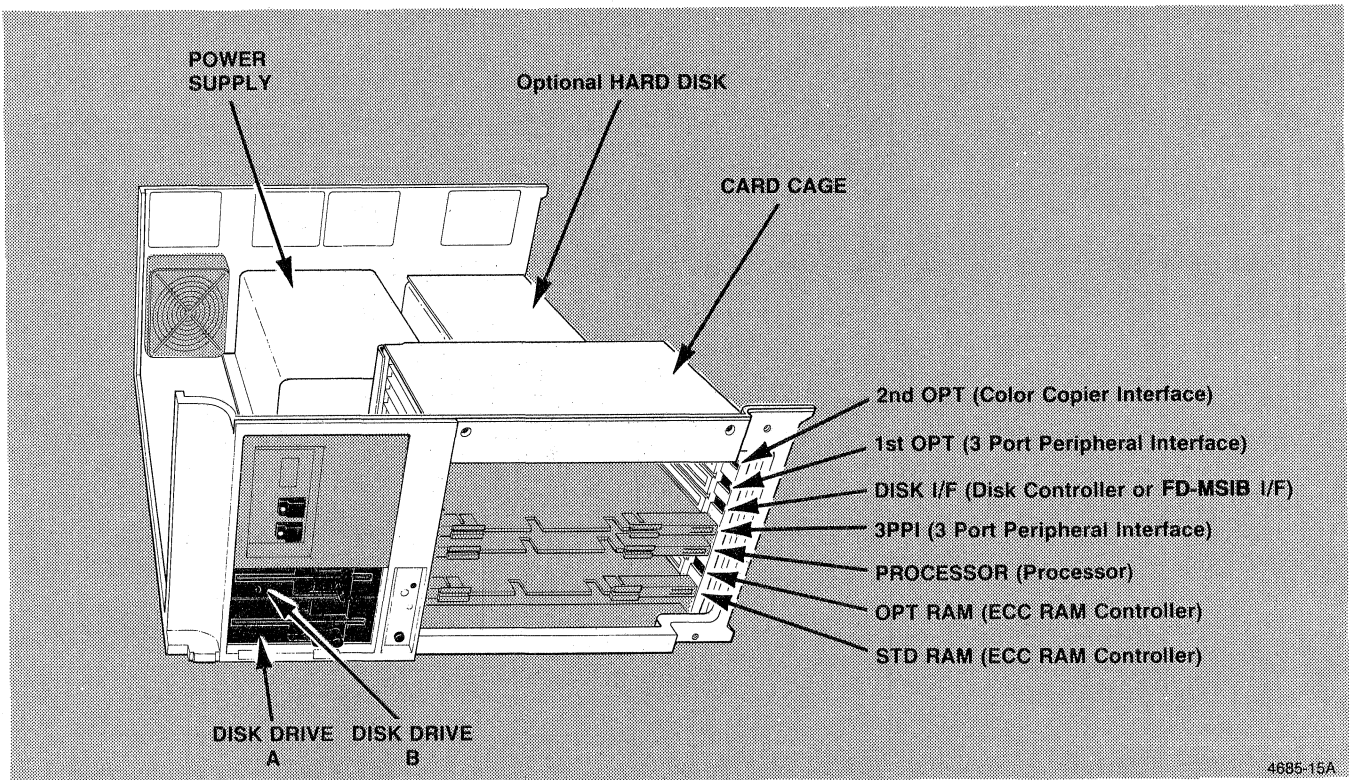

Figure 4-3. Major Component Locations.
- F. You are done with Procedure 4. Check it off Table 4-1. Before you do the next procedure, review Figure 4-3, which follows, to learn the location of major components.
The major component locations are shown in Figure 4-3. You should familiarize yourself with these components since they are referred to in the following procedures. The name following the board slot name is the name found on the board installed in that slot.